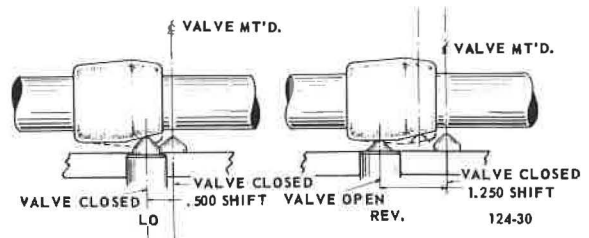

Figure 5-1. Valve Adjustment TRXL107 Transmission
7. Valve should be open in reverse position only. See Figure 5-1.